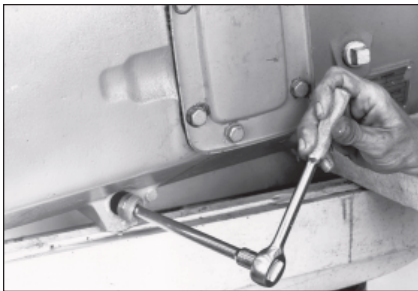

Fig. 2
**Note:** Use caution when draining the transmission - the oil may be hot. (Fig. 2)